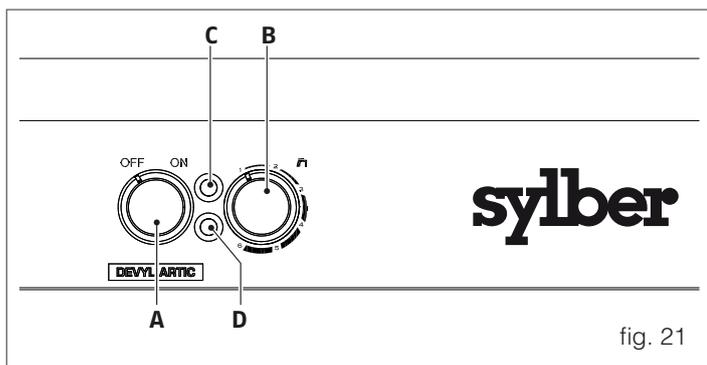

fig. 21
- When the appliance is powered the green LED (fig. 21 - C) flashes on for 1 second and remains off for 5 seconds; turn the dial (fig. 21 - A) to the "ON" position: the green LED will flash with equal frequency. Turning on the hot water dispensing tap starts the circuit board ignition sequence once a flame has been detected; the green LED (fig. 21 - C) will switch from flashing to remaining on. When the tap is shut off, the appliance will switch to stand-by mode and the green LED (fig. 21 - C) will flash to show that the appliance is ready for further withdrawals.
- Should the burner not ignite within 10 seconds, the red LED (fig. 21 - D) will illuminate. To resume operation, turn the dial (fig. 21 - A) manually to the "OFF" position and then the "ON" position.
-  If the appliance does not begin operating again within 10 seconds, the red LED (fig. 21 - D) will light up.
Turn the dial (fig. 21 - B) to select the hot water temperature requested.
Should the device be activated, the appliance will not work. The red warning light (fig. 21 - D) will flash at intervals of 0.5 seconds. To resume operation, turn the dial (fig. 21 - A) manually to the "OFF" position and then the "ON" position.